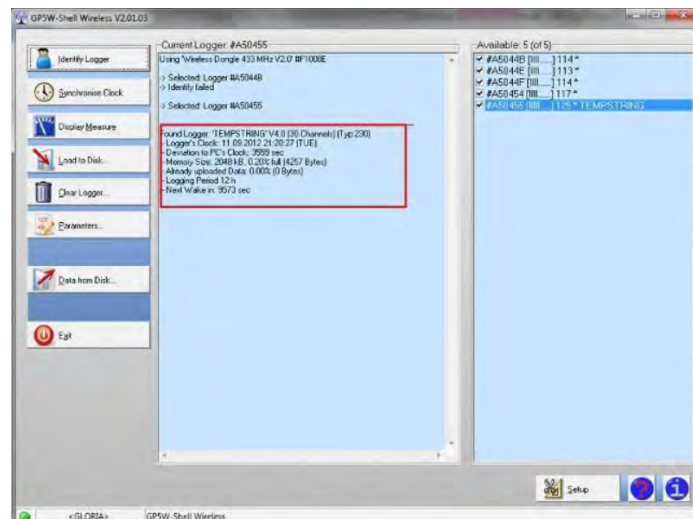

Figure 37: In the red box on the left, battery status, memory status and logger time.
2. Once you have clicked "identify logger" it will attempt to connect, once connected it will give the current logger status such as seen below in Fig. 37.